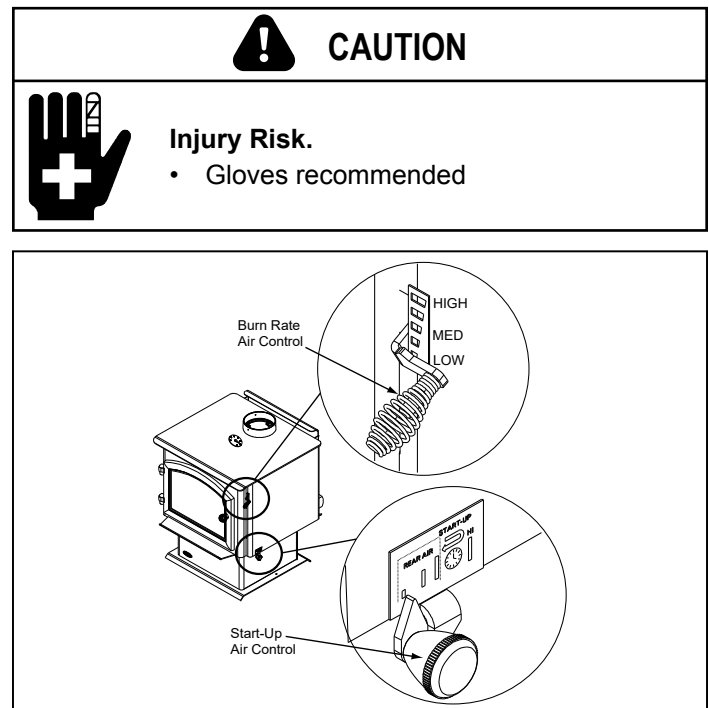

Figure 10.1
2. **Second Stage:** The next stage of burning, the secondary stage, is the period when the wood gives off flammable gases which burn above the fuel with bright flames. During this stage of burning it is very important that the flames be maintained and not allowed to go out. This will ensure the cleanest possible fire. If the flames tend to go out, it is set too low for your burning conditions. The air control located at the upper right hand corner is used to adjust for burn rates. This is called the Burn Rate Air Control (**Figure 10.1**).
1. **Burn Rate Air Control:** This air supply enters at the upper front of the firebox, near the top of the glass door. This preheated air supplies the necessary fresh oxygen to mix with the unburned gases, helping to create second, third and fourth combustions. This air is regulated by the Burn Rate Air Control. When the control is moved all the way up it is on the High setting and when moved all the way down it is on the Low setting (**Figure 10.1**).
1. **Start up and Reloading Fuel:** Open both Burn Rate Air Control and ACC systems fully. To do this with the Burn Rate Air Controls push spring handle up to high. For the ACC timer system push knob towards back of appliance until the knob is located under the high position (**Figure 10.1**).
2. **Maximize Heat with The ACC System:** To maximize heat output with the ACC timer System or also known as high burn push the ACC Air Control lever towards the back of the appliance and leave. This combined with having the main burn rate control lever pushed up will deliver the most amount of air needed to achieve the highest amount of heat output (**Figure 10.1**).
- Then activate the ACC timer system by pushing the knob all the back toward the appliance to “HI” then pull forwards towards the front of the appliance until the knob stops (**Figure 10.1 on page 10**).